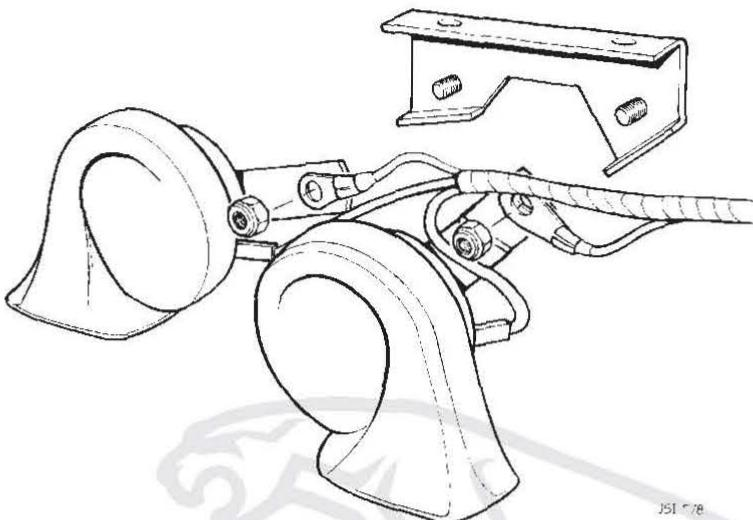

FIG 2
6. Assemble the horn assemblies (DBC 4802/3) and link harness (DBC 4797) earth eyelets to the mounting bracket (DBC 4794) and secure (Fig 2).